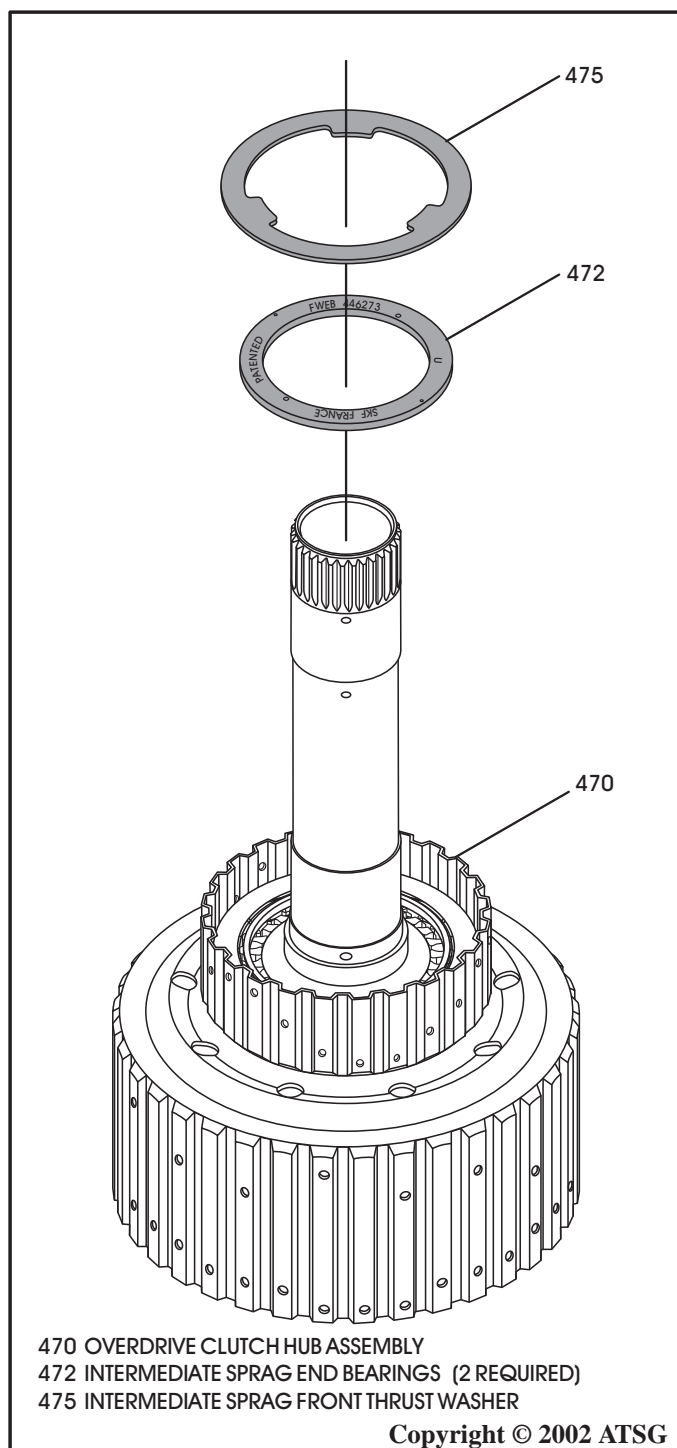

Figure 111
12. Install the other intermediate sprag end bearing in the direction shown in Figure 111, with the smooth side facing up.
13. Install another intermediate sprag thrust washer on top of the end bearing (See Figure 111).